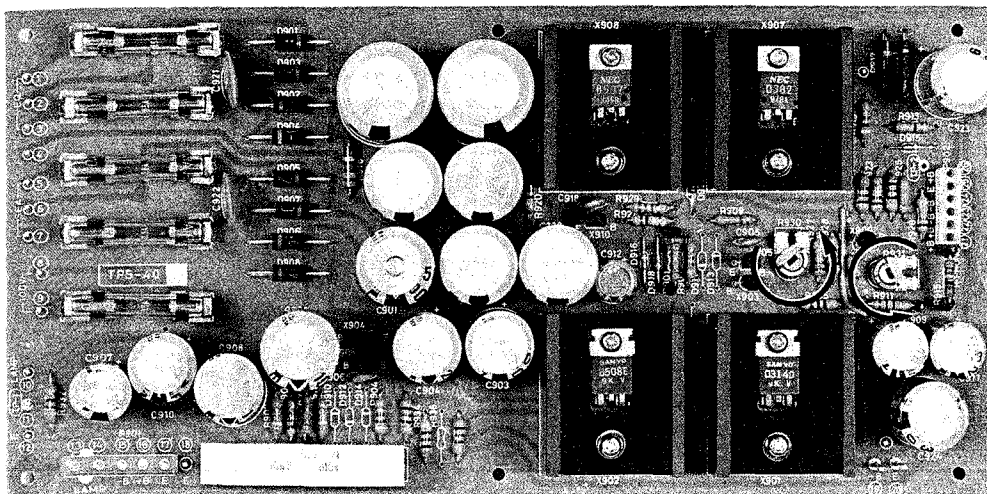

Fig. 20
1. Turn semi-fixed variable resistors R930, R931 located on Power Supply P.C. Board (TPS-40A) fully counterclockwise. Refer to Fig. 20.
2. Adjust R930 and R931 according to the steps listed above. Refer to Fig. 20.